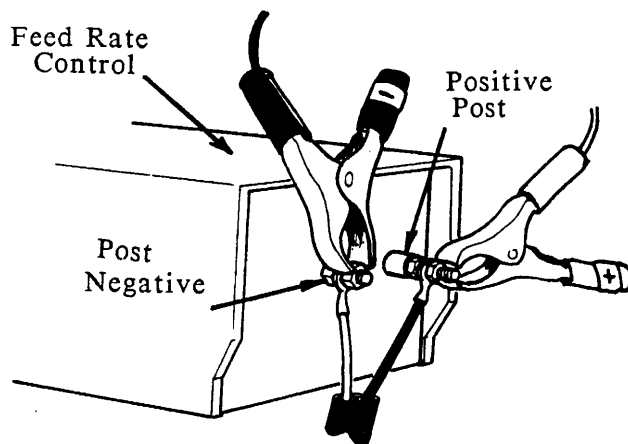

FIGURE 1
2. When using the LTADS in the field with a LT30 or LT40 Wood-Mizer, use the provided socketed pigtail with battery clips. Attach the clips to the back of the power feed control as shown in Figure 1. The positive lead (red) should be clipped to the longer of the two power feed posts. Ground the negative clip (black) to the short power feed post.